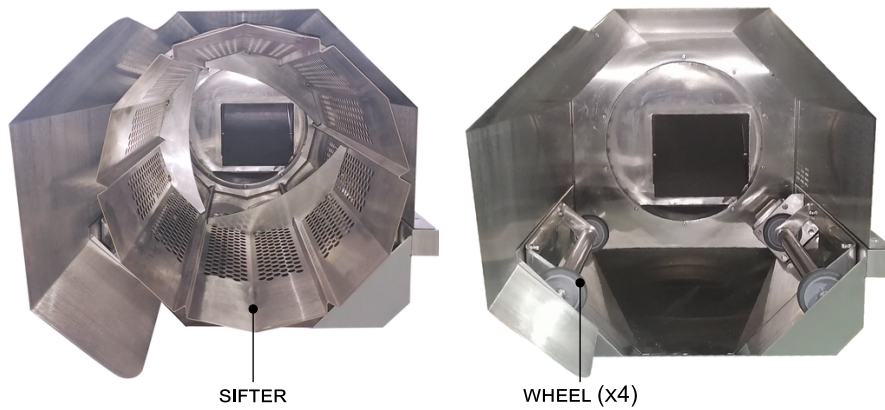

Figure 15: Sifter cleaning
7. Take out the **sifter drum**, see Fig. 15. Sifter drum lays freely on four **wheels**. To take sifter drum out, lift it and then pull out from the machine.